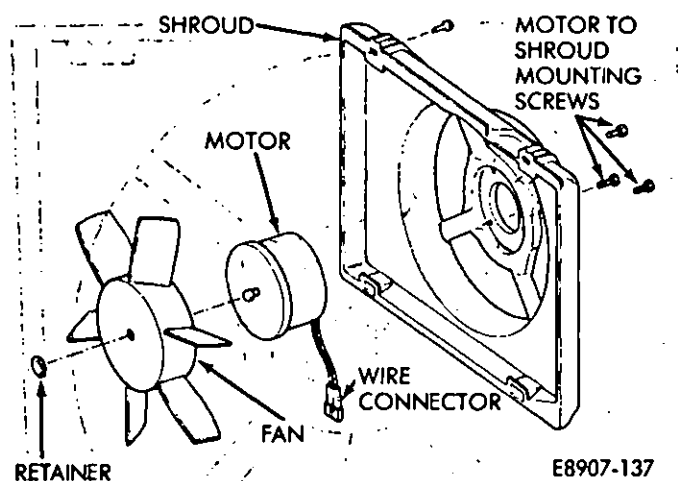

Fig. 17—Electric Cooling Fan (Typical)
- (1) Remove cooling fan/shroud assembly from vehicle. Refer to Electric Cooling Fan Removal.
- (2) Remove fan blade module retaining clip (Fig. 17).
- (3) Remove fan blade module (Fig. 17).
- (4) Remove fan motor wire connector from clips in shroud (Fig. 17).
- (5) Remove fan motor to shroud mounting screws (Fig. 17).